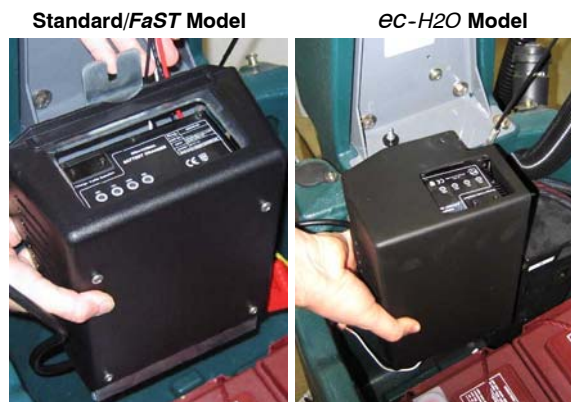

Fig. 10
11. Connect charger assembly to machine (Figure 10).